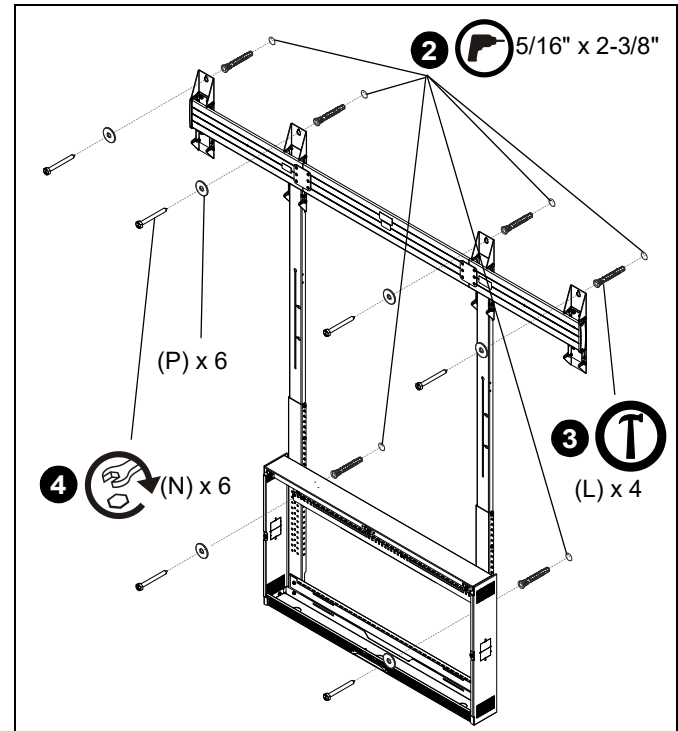

Figure 18
1. Mark hole locations at each mounting location based on locations of bottom of uprights and mounting brackets. Use a level to ensure of an even mount. (See Figure 18)
2. Remove the head assembly from the uprights and drill 5/16" holes with a depth of 2 3/8" on marked hole locations. (See Figure 18)
3. Use hammer to install four concrete anchors (L) into drilled holes. (See Figure 18)
4. Replace the head assembly onto the uprights and use six 1/4 x 2 1/2" hex head lag screws (N) and six 1/4" washers (P) to secure mounting brackets and bottom uprights to wall. (See Figure 18)